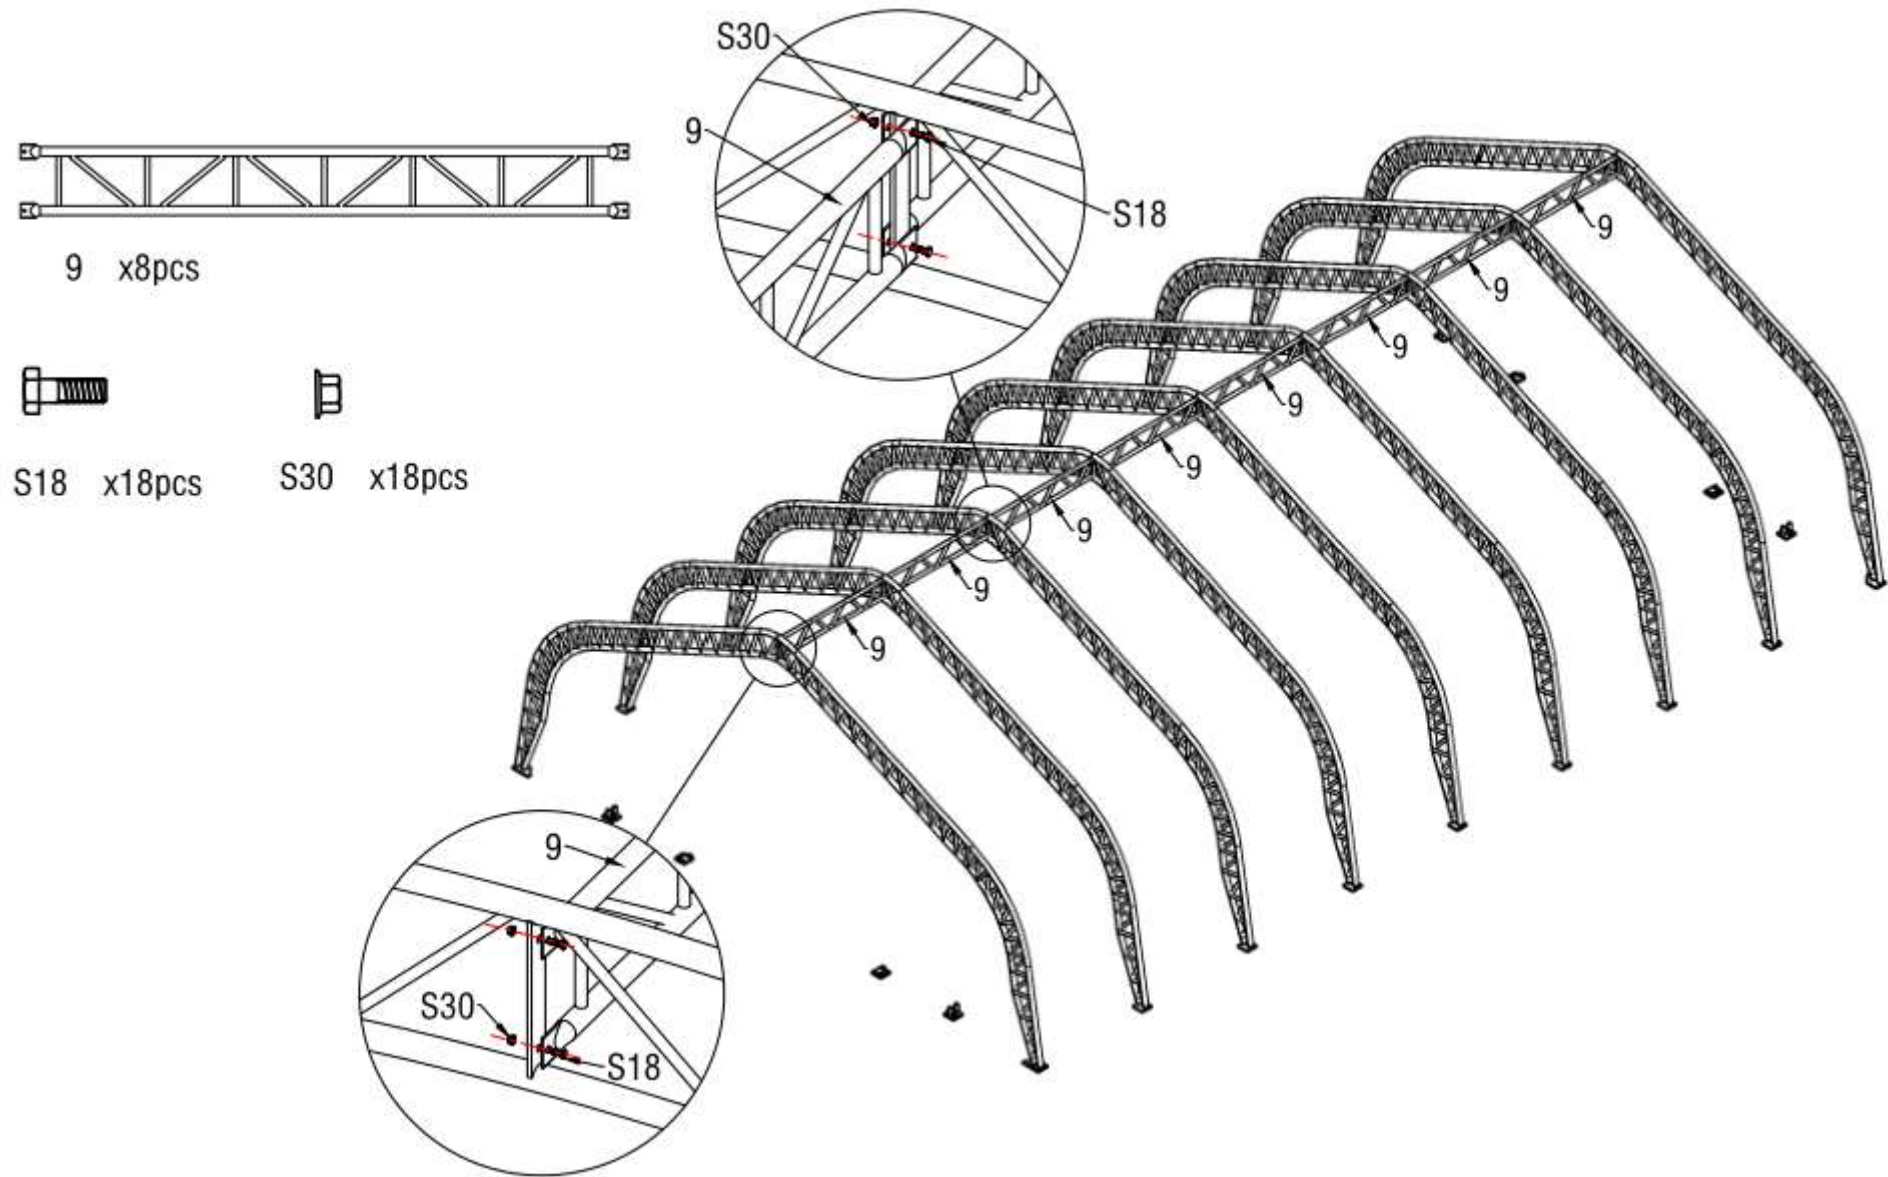

Figure 7
4. Above Figure 7 shown when finish installing all the arches into the base plates, use Double Trussed Purlins (No.9) to connect them by Screw M10x30 (No.S18) . Then use Purlins(No.10) to connect the arches by Screw M10X30 (No.18). In this turn, fix all other purlins. Finished stretch frame as below(Figure 8)